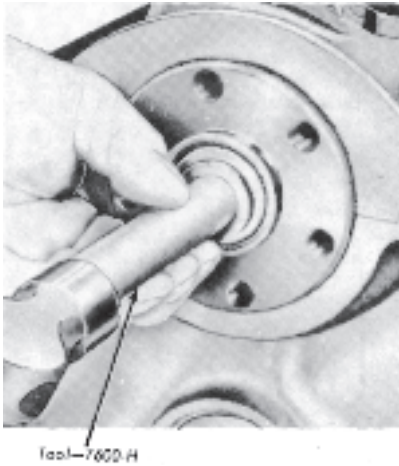

Fig. 30 Installing Clutch Pilot Bearing
1. Install the pilot service bearing as shown in Fig. 30; using tool, install new bearing and adapter so the adapter is not cocked.